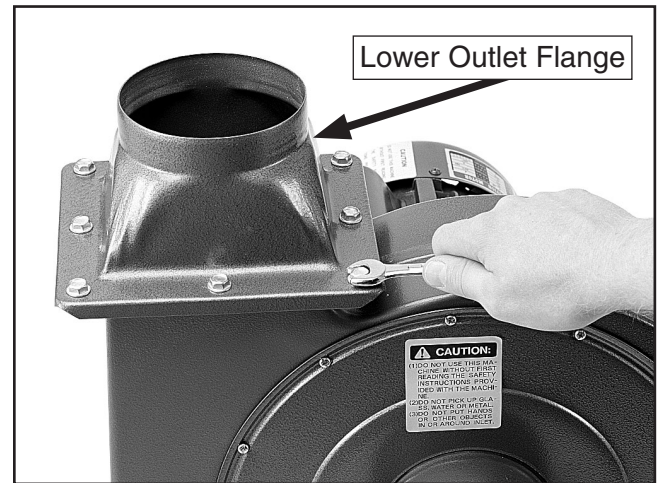

Figure 7. Mounting outlet to collector body.
3. Insert the rubber gasket between the collector and lower outlet flange, and secure using (8) $\frac{5}{16}$ "-18 x $\frac{1}{2}$ " flange bolts, as shown in **Figure 7**.